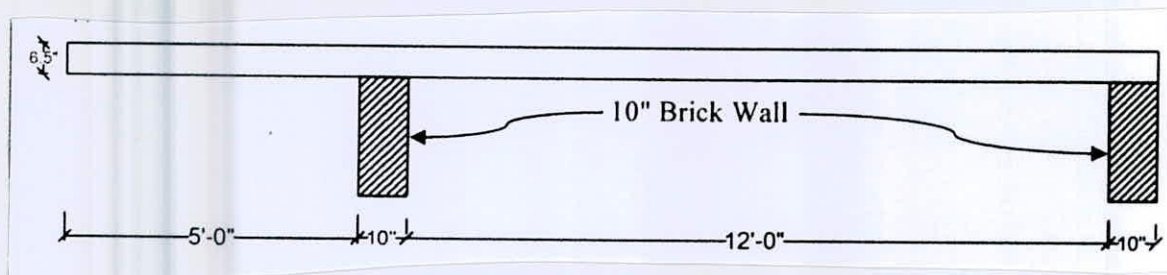

Figure: 6
- (b) Show with neat sketches the bar details for development of standard hooks. (10)
7. (a) A 6.5" thick one-way slab is supported on brick walls as shown in Fig. 6. The slab is subjected to FF load = 20 psf, permanent partition wall, PW = 50 psf and live load, LL = 60 psf in addition to self-wight. The live load can occupy any portion or any position on the slab. Design the slab and show all reinforcement detailing in a neat sketch. *Given: $f'_c = 3 \text{ ksi}$ and $f_y = 60 \text{ ksi}$.* (25)